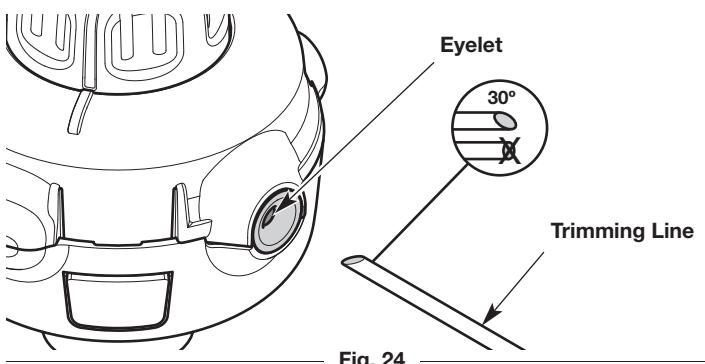

Fig. 24
2. Cut two 10-foot (3.0 m) lengths of new trimming line. Cut one end of each line at a 30 degree angle (Fig. 24).
4. Insert one of the lines into an eyelet on the cutting head (Fig. 24). Use the angled end and push the line in about 3 inches (7.5 cm). Repeat this process with the other line and remaining eyelet.